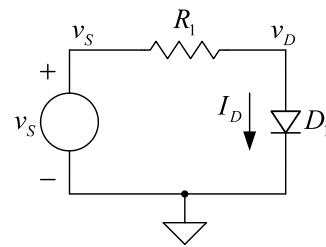

Figure 4.
Step 16. Now change the circuit to that of Figure 4. Use the same value of R_1 as before. In PSPICE, the diode D_1 should be a 1N4148,